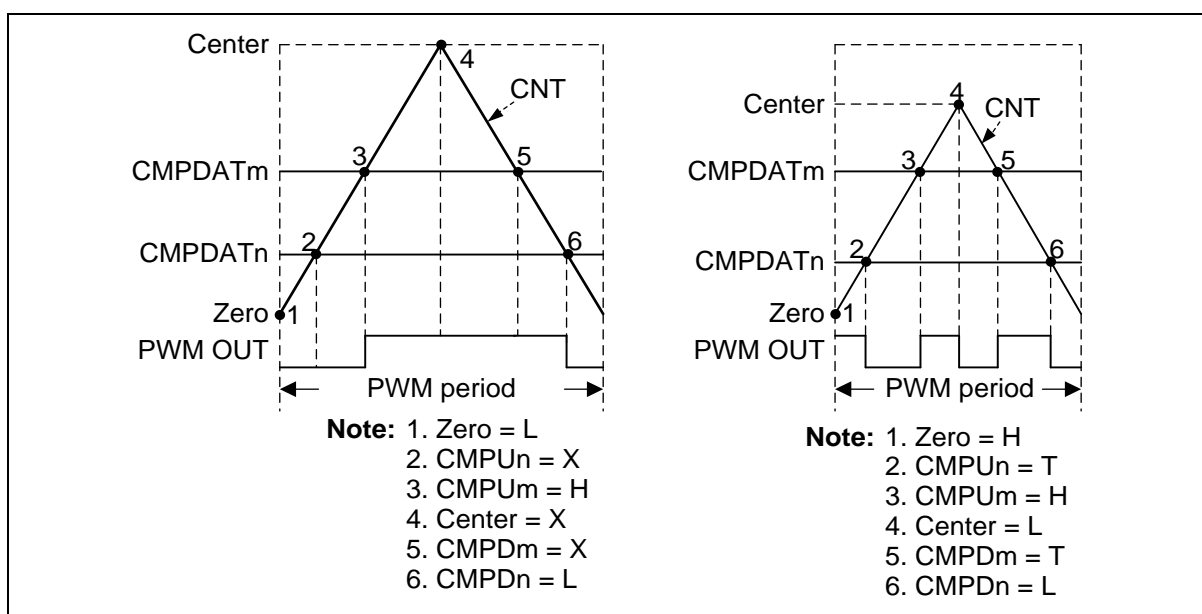

Figure 6.12-16 PWM Pulse Generation
Each event point can decide PWM waveform to do nothing (X), set Low (L), set High (H) or toggle (T) by setting the PWM\_WGCTL0 and PWM\_WGCTL1 registers. Using these points can easily generate asymmetric PWM pulse or variant waveform as shown in Figure 6.12-16. In the figure, PWM is in complementary mode, there are two comparators n and m to generate PWM pulse. n denotes even channel number 0, 2, or 4, and m denotes odd channel number 1, 3, or 5. n channel and m channel are complementary paired. Complementary mode uses two channels (CH0 and CH1, CH2 and CH3, or CH4 and CH5) as a pair of PWM outputs to generate complement paired waveforms. CMPU denotes CNT(PWM\_CNTn[15:0]) is equal to CMP(PWM\_CMPDATn[15:0]) when counting up. CMPD denotes CNT bits is equal to CMP bits when counting down.